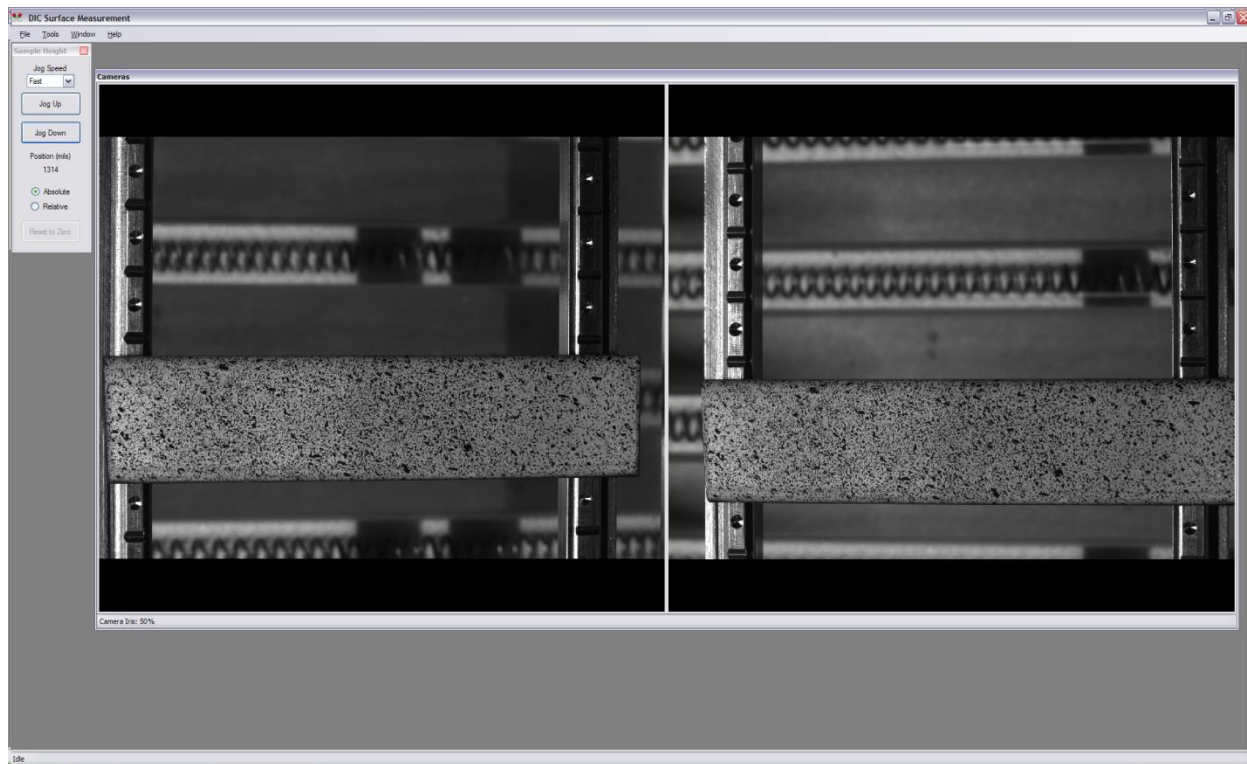

Figure 4.2 DIC Surface Measurement
- The main screen will display and it looks very similar to the normal Surface Measurement interface, except that it has two camera views instead of one (**Figure 4.2**).